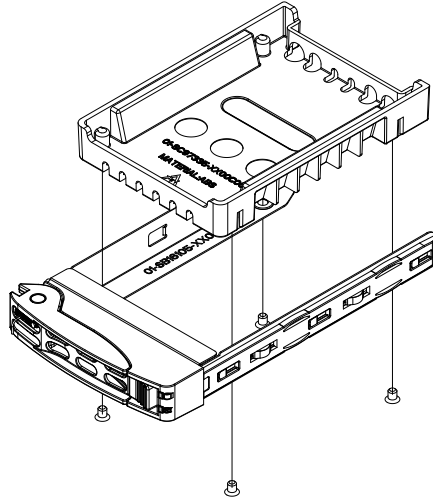

Figure 3-8. Removing a Dummy Drive from the Drive Carrier
3. Remove the dummy drive from the carrier (Figure 3-8).